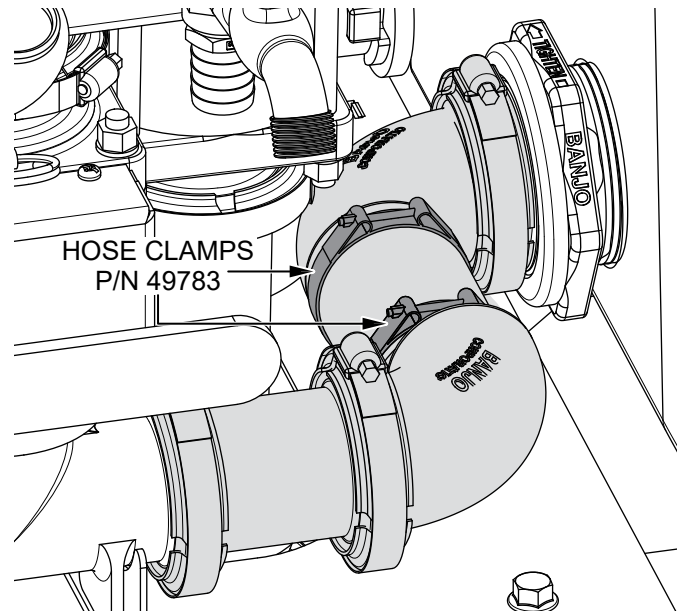

Figure 17. Tighten Hose Clamps
- Tighten both **hose clamps (P/N 49783)** securely. See Figure 17.